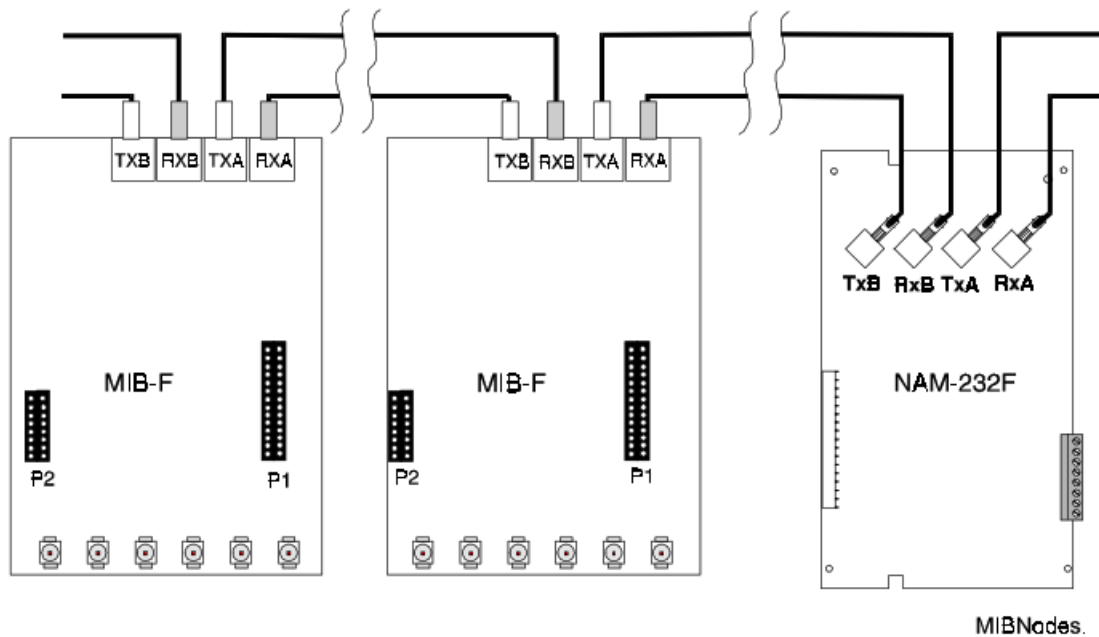

Figure 5 MIB-F Connection
When connecting consecutive nodes/repeaters, note that fiber cable must exit one board on transmit (TX) and enter the next node/repeater on receive (RX). Also, note that the fiber-optic pair (RX, TX) from port A of one Node/Repeater may be connected to either Port A or Port B of another node/repeater (refer to Figure 5). A MIB-F may be connected to any of the following devices: